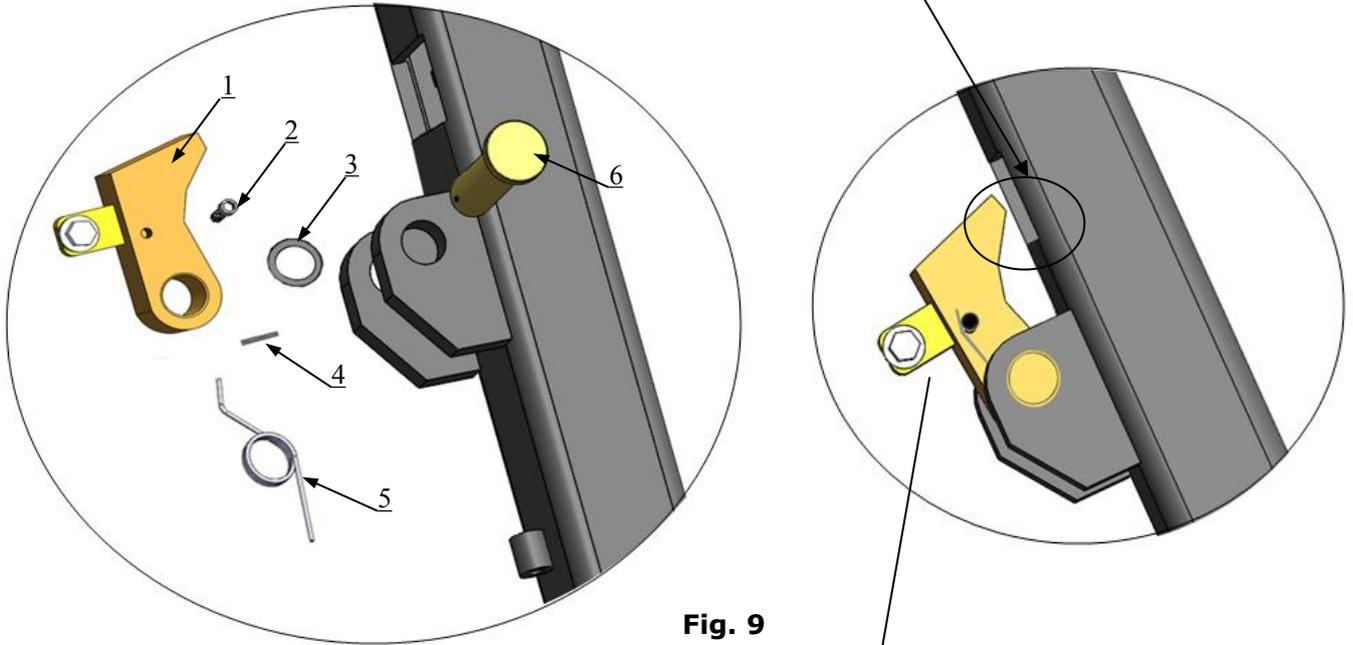

Fig. 9
1. Put the safety device parts as Fig.9